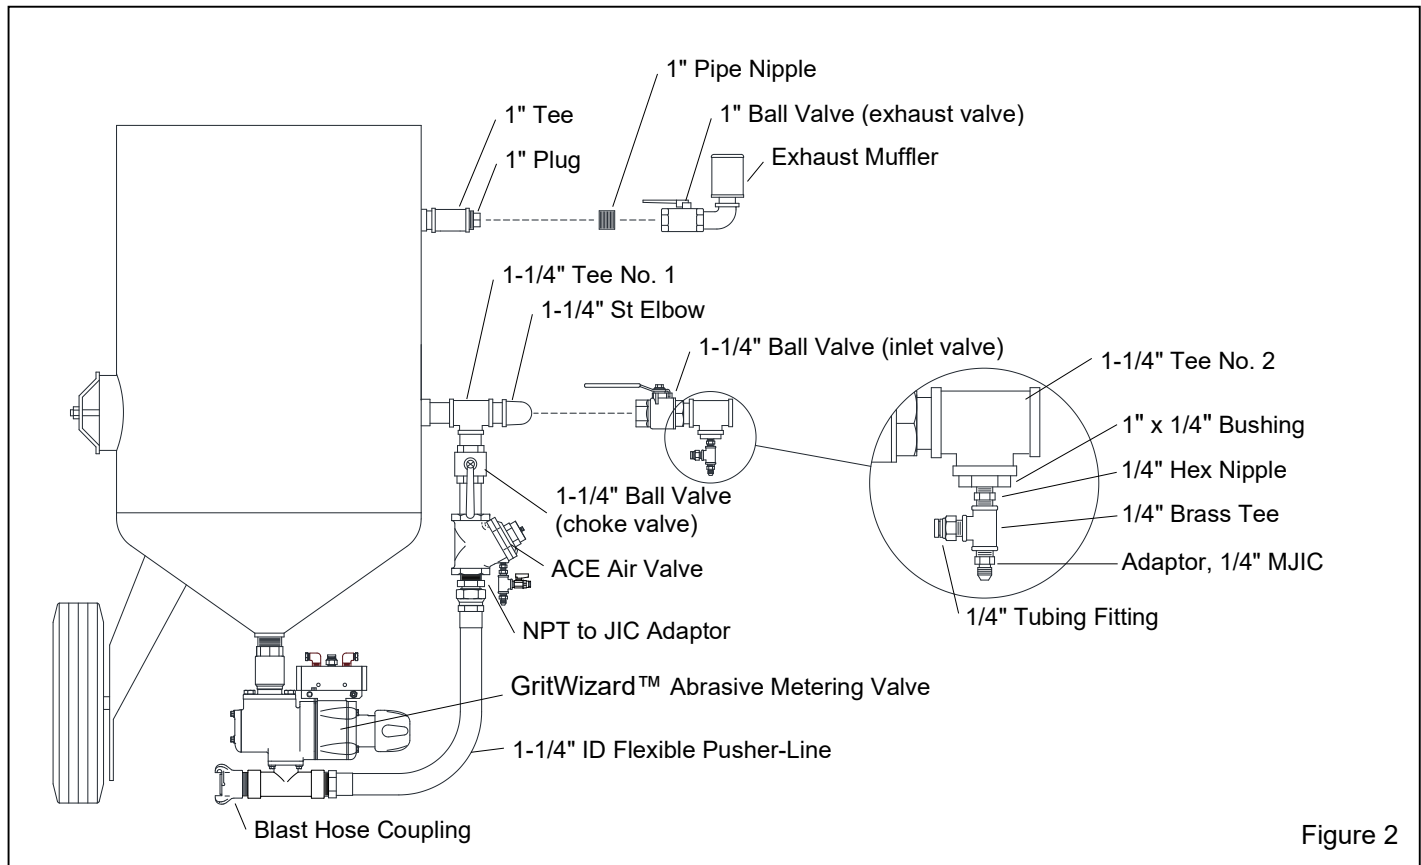

Figure 2
Figures 2 and 3.
2.3.2 Refer to Figure 2 for the final piping arrangement, and remove the existing abrasive metering valve and all unnecessary external piping from the blast machine. Save the external piping for reuse.
2.3.4 Install a 1-1/4" pipe tee (Tee No. 1) and street elbow at the blast machine inlet, as shown in Figure 2. NOTE: The elbow should be facing toward the back of the machine, so the weight of the piping puts the fittings in the tightening position.
2.3.5 Connect a manually operated ball valve (inlet valve) and a second tee (Tee No. 2) to the elbow, as shown. NOTE: The second tee and all fittings necessary to complete the assembly shown in the detail circle in Figure 2, are included with the remote system.
2.3.7 Loosely assemble a pusher-line under Tee No. 1, using standard pipe fittings as shown in Figure 2. Start at the tee and work downstream; this line must include a manual choke valve, ACE Air Valve, and NPT to JIC adaptor, in that order. A separate manual is provided for the ACE Air Valve.
2.3.9 Refer to the detail circle in Figure 2, and assemble all fittings within the circle.